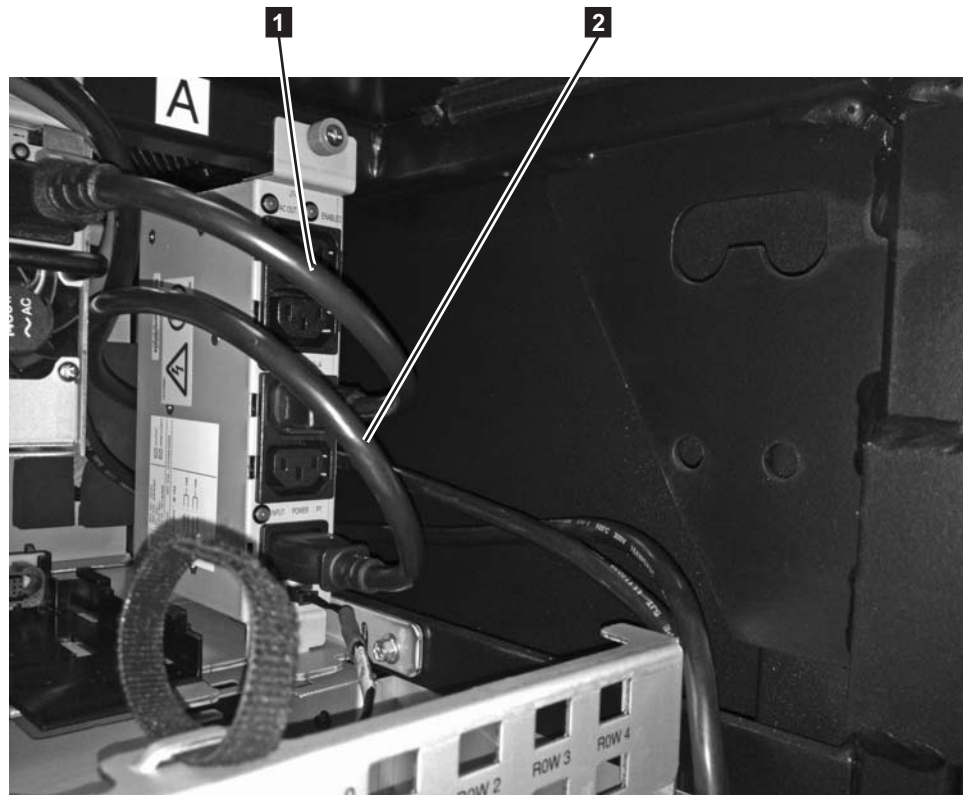

Figure 24. Connecting power from the IMC PDU
- 4. Starting with the ends of both of the power cords, run the cords along the inside of the right side of the frame, and then behind the IMC PDU, as shown in Figure 24 on page 41.
- 5. Attach one customer power cord **2** in Figure 24 to the lower receptacle (Input power) in the PDU.